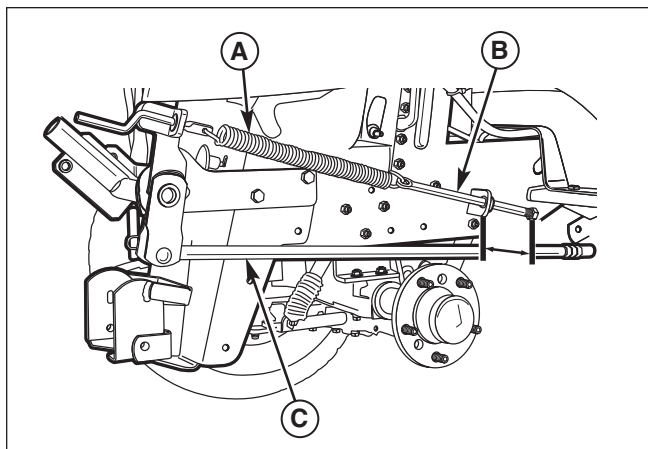

Figure 17. Lift Assist Spring
6. **Manual Lift Models:** Release the tension on the lift assist spring (A, Figure 17). Remove the threaded rod spring (B) from the front bracket.
4. Install the lift rod (C, Figure 17).